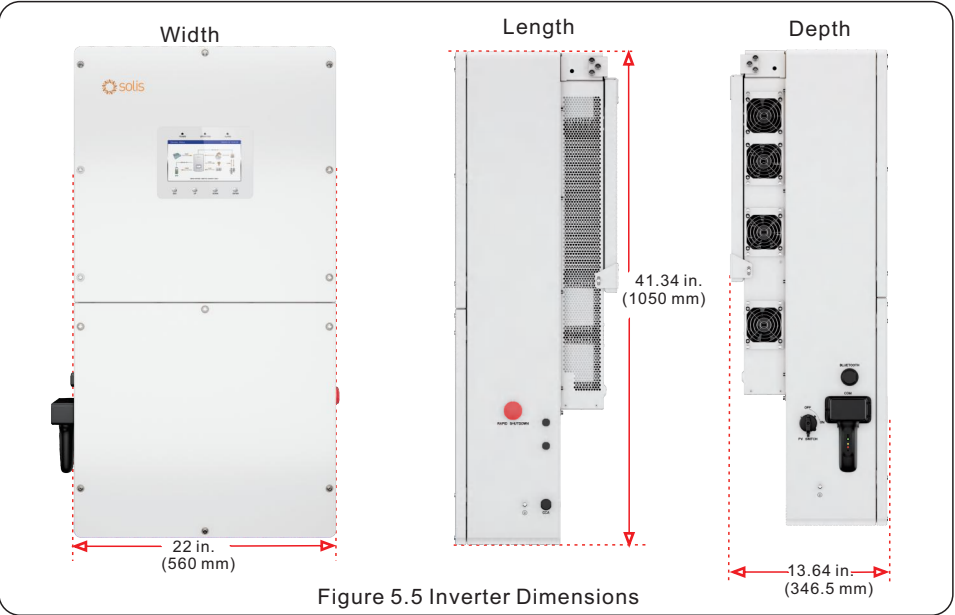

Figure 5.5 Inverter Dimensions
- If multiple inverters are installed on site, a minimum clearance of 31.5 inches should be kept between each inverter and all other mounted equipment. The bottom of the inverter should be at least 20 inches above of the ground or floor (see Figure 5.5 on page 23).